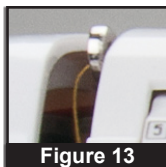

Figure 13
5. Feed the thread through the hole in the chrome take-up lever and pull straight down to the needle. (Figure 13)